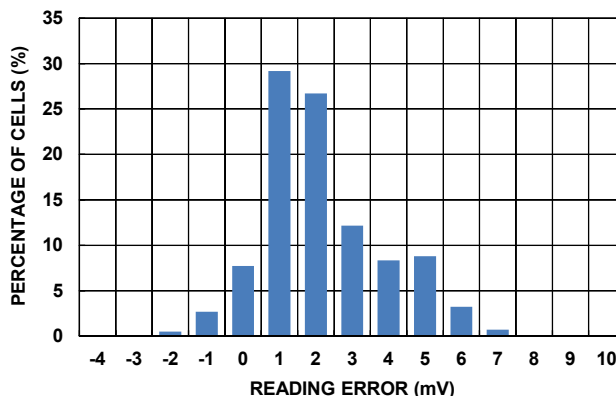

Figure 8. Cell Reading Error from Evaluation Boards at Cell Voltage from 2.6V to 4.0V, and -20°C to +60°C Histogram
10. Stresses may be induced in the ISL78610 during soldering or other high temperature events that affect measurement accuracy. Initial accuracy does not include effects due to this. See Figure 8 on page 19 for cell reading accuracy obtained after soldering to Renesas evaluation boards. When soldering the ISL78610 to a customized circuit board with a layout or construction significantly differing from the Renesas evaluation board, design verification tests should be applied to determine drift due to soldering and over lifetime.